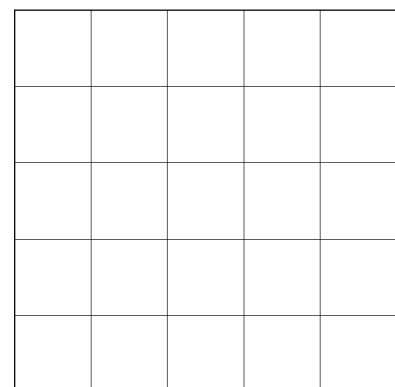

Fig. 15.3.6: Current
- Draw the vector diagram of currents in Fig. 15.3.6. From your drawing, determine the apparent current (total current) I .